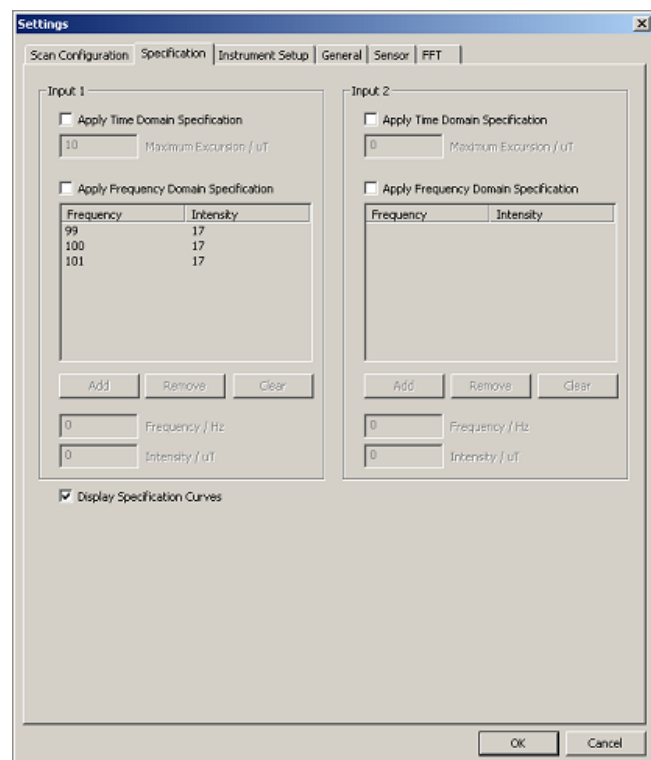

Figure 14b. Process of data acquisition.
(2) The **Specification** sub-menu (**Figure 14b**) lets the user set the peak excursion of the input signal at which a test should fail.
(ii) Enter a value in the **Frequency/Hz** and **Intensity/ μ T** boxes and click **Add**. Up to three values should be added very close to the value of interest. For example, to detect a 17μ T peak at 100Hz, enter three values as shown in **Figure 14b**.